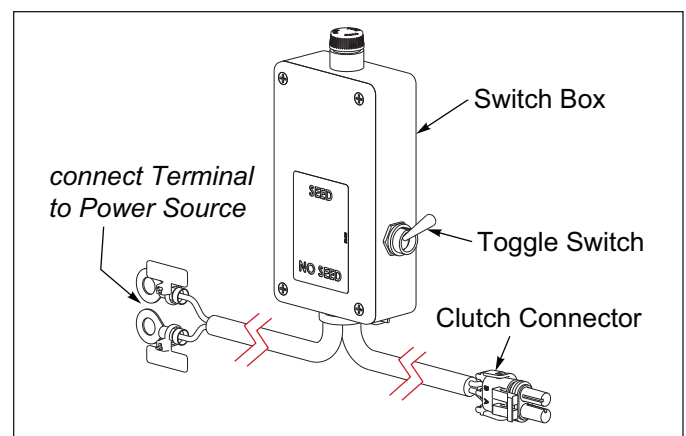

Figure 2-20: Switch Box Assembly
4. **Clutch Switch Box:** Connect Clutch Harness to Clutch Switch Box Cord. Connect Clutch Switch Box Cord with Ring Terminals to tractor power source. **See Figure 2-20.** Ring Terminals can be removed and replaced with a different power source connector.